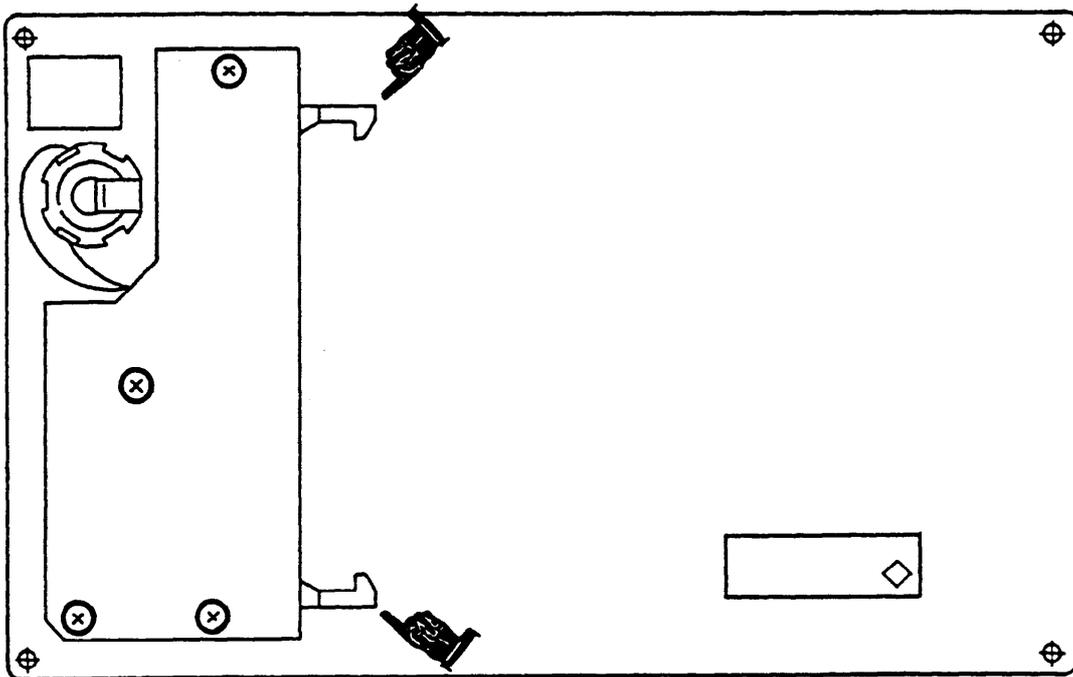

Fig. 4.2 Location of Connector X20 (Control Unit 1)
3. Carefully pull control unit 1 out to the front until male connector X20 (see Fig. 4.2) becomes accessible.